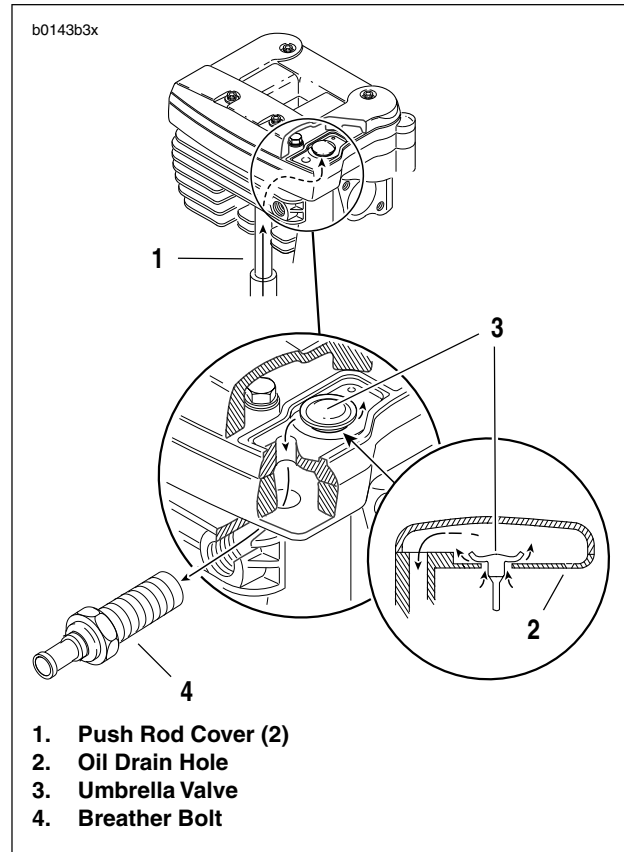

Figure 3-53. Crankcase Breathing System,
See Figure 3-53. On piston downstroke, a mixture of crankcase air and oil mist is vented up the push rod covers (1) through an umbrella valve (3) in each middle rocker box section.